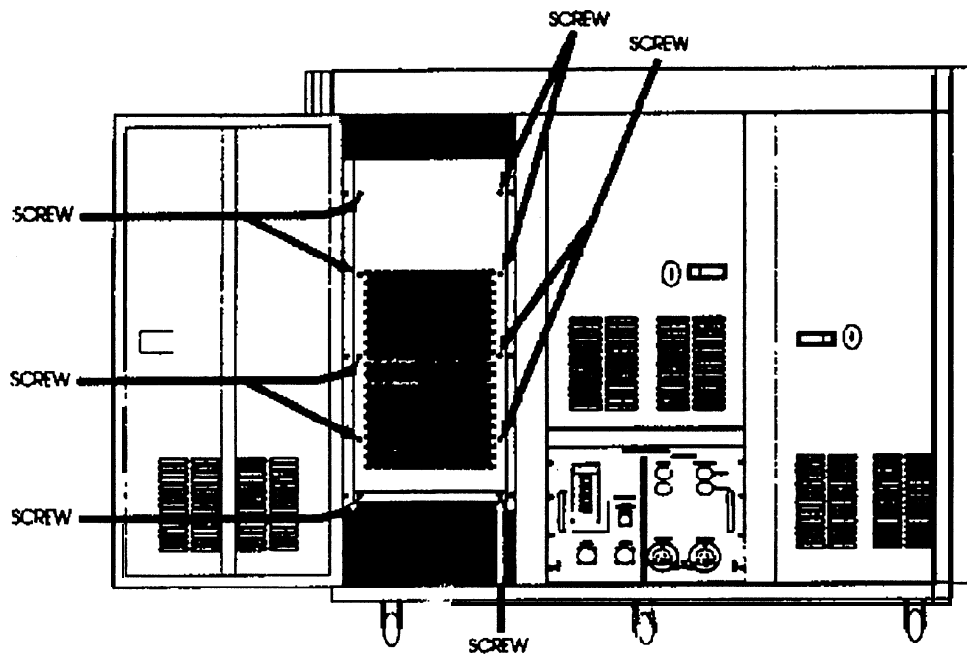

Figure 3-21. IG Fan Filter Cover (TD 17/162A)
- (1) Remove the four screws holding the slotted Filter panel to the System Controller.
- (2) Remove the four nuts on back of the panel holding the filter bracket.
- (3) Remove the filter.
- (4) **Wash** the **filter** with warm water and let dry.
- (5) Replace the filter, bracket and filter panel.
- b. IG fan filters (refer to Figure 3-21 and 3-21a)